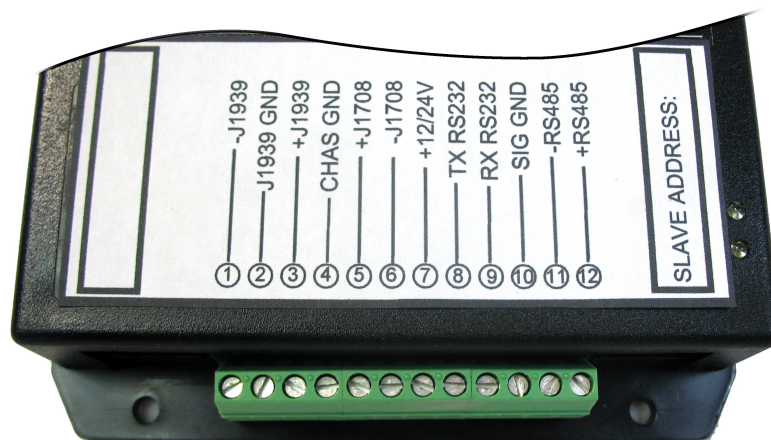

Figure 1: Procon Connector Pinout
1. The terminal strip connections are numbered from 1 to 12, from the leftmost terminal to the rightmost terminal (while viewing the terminals from the front, with the LEDs facing up). See Figure 1.